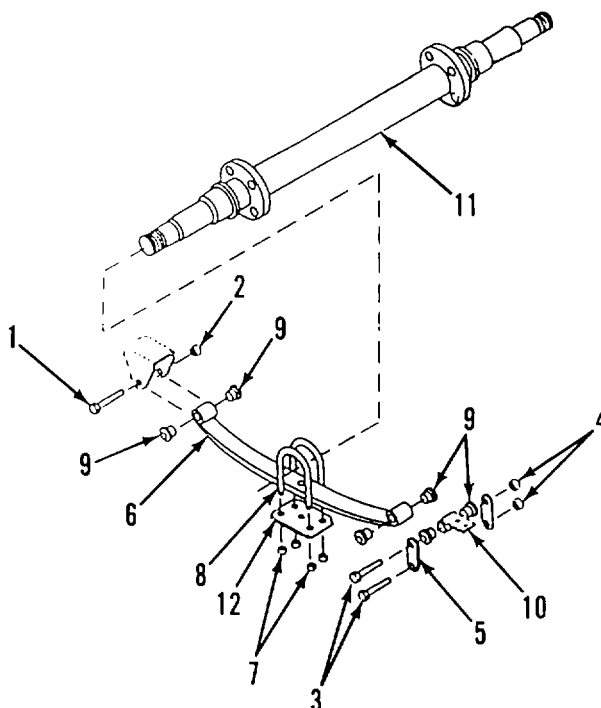

Figure 3-35. Axle Assembly
a. REPAIR. (Figure 3-35)
- (1) Position blocking beneath trailer. Ensure blocking will support trailer and that the tires are barely touching the ground.